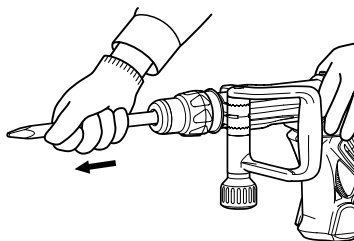

Fig. 3
- Return grip (A) to its original position, pull the tool to make sure it is locked completely. (Fig. 3)